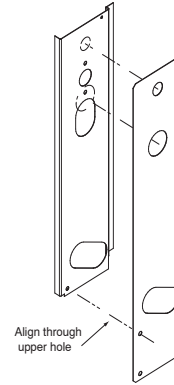

Fig. 11 - Use Header Plate as Template
- Cut holes for liquid, suction and drain connections in the existing header panel. Use **new header plate** supplied with coil as template to locate holes. Align header plate to the header panel using the upper hole as indicated in Fig. 11.
3. Cut holes for liquid and suction connections in the existing header panel. Use **header plate** supplied with coil as template to locate holes. Align header plate to header panel using the upper hole as indicated in Fig. 11.